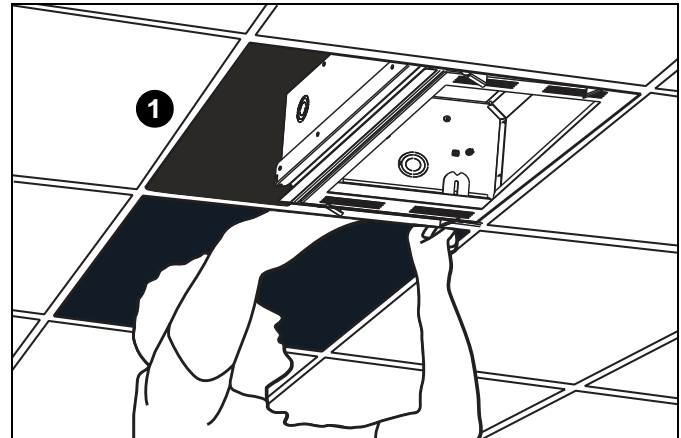

Figure 11
2. Rotate and drop box to gently rest into place onto drop ceiling framework. (See Figure 11)
1. Remove adjacent ceiling tiles, as needed, to access cable attachment locations. (See Figure 11)